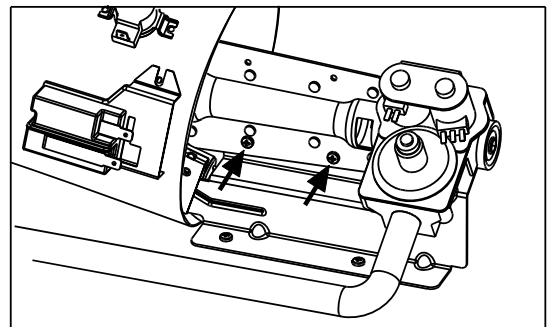

Figure 4
- Remove the two screws that mount the burner to the gas valve bracket. Remove the burner and set it aside. (Figure 4)